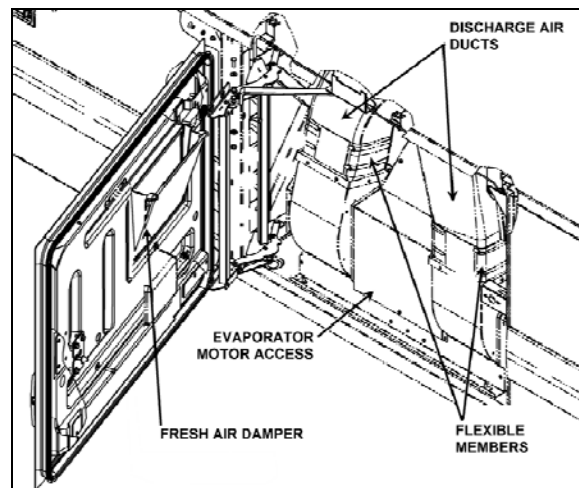

FIGURE 63: X3 SERIES PASSENGERS' AREA FRESH AIR DAMPER
- X3 Series - On the evaporator compartment door (Figure 63).